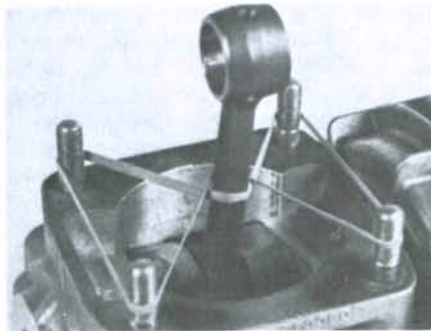

Fig. 8—Use a rubber band as shown to protect engine parts from damage when cylinder and piston are off. Refer to text.
**SINGLE CYLINDER ENGINE.** With engine removed as previously outlined, remove cylinder head nuts, cylinder head and gasket. Unbolt and remove cylinder by lifting it straight up, catching piston as cylinder is lifted off. Remove piston pin retainers and push out the pin using a suitable removing tool. Use a rubber band to center rod as shown in Fig. 8, thus avoiding damage to parts if crankshaft should be accidentally turned.
cylinders for reassembly. Remove exhaust manifold and if so equipped, the intake manifold. Unbolt and remove cylinders by lifting them straight up, holding pistons as cylinders are removed, to prevent damage. Remove piston pin retainers and push out the pins using a suitable removing tool. Use rubber bands to center rods and prevent damage if crankshaft is accidentally turned. (Fig. 8).